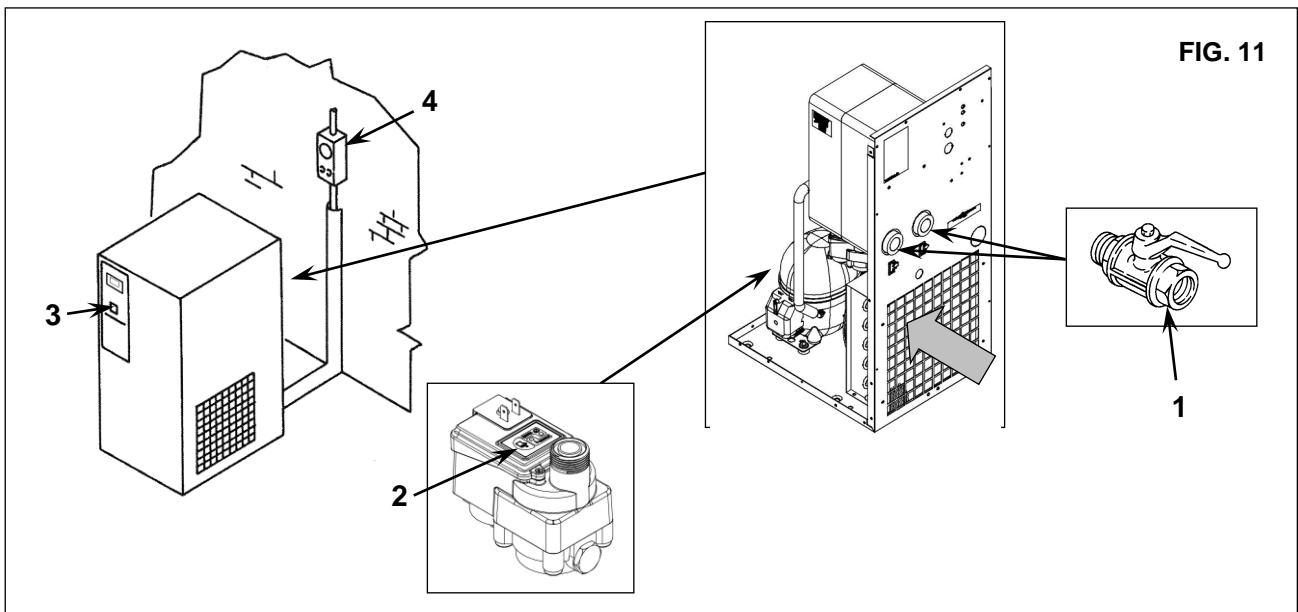

FIG. 11
- Close the taps Ref. 1 Fig. 11
- Release the pressure in the dryer by pressing the condensate drain "TEST" pushbutton locate on the steam trap Ref. 1 Fig. 11
- Switch off the machine by pressing the STOP button Ref. 3 Fig. 11
- Turn on the supply automatic differential switch Ref. 4 Fig. 11